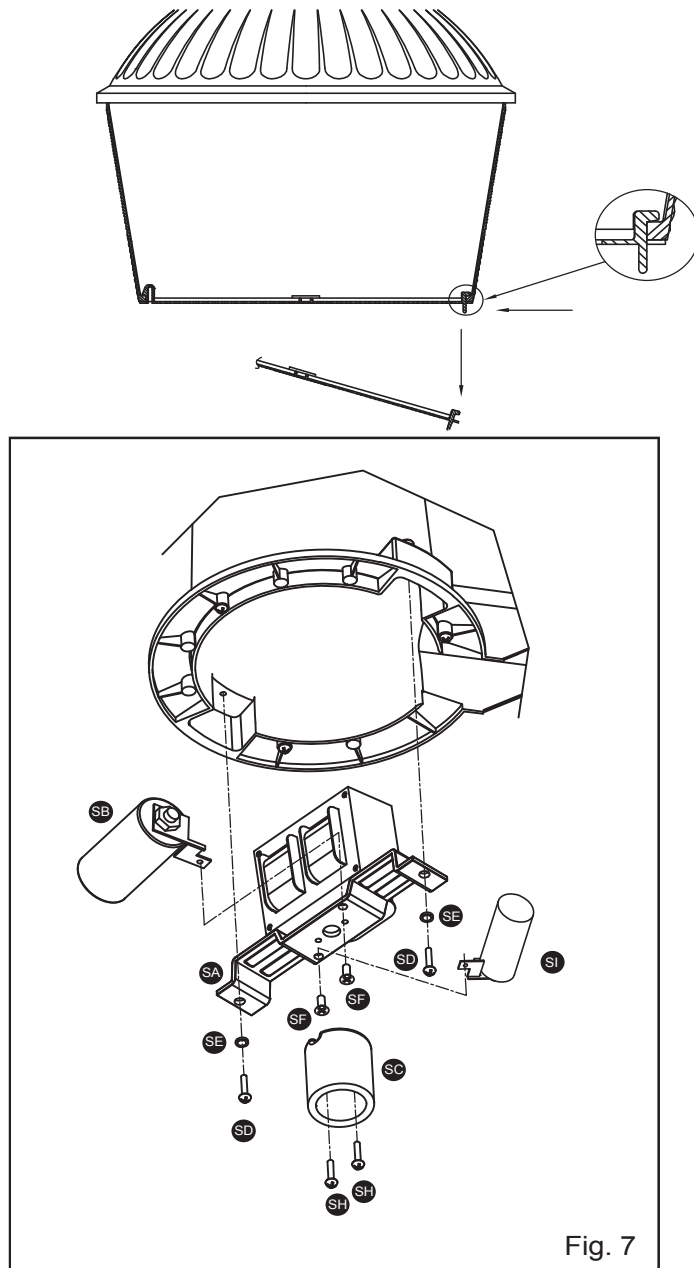

Fig. 7
Step 1: Remove protective screen (F).
Step 2: Remove bulb (D).
Step 3: Loosen the three lens assembly screws (GG) and remove lens assembly.
Step 4: Remove the two screws (SD) and washers (SE) connecting the ballast (SA) to fixture housing (A) (see Fig 7).